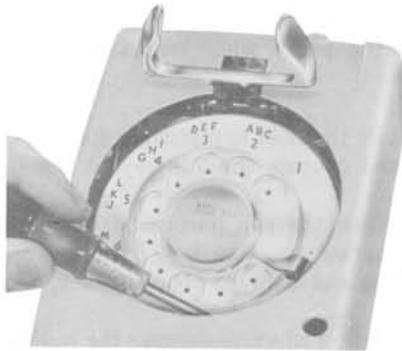

Fig. 7—Wall Set Housing Alignment
- (4) When housing is approximately 1/2-inch from the dial, insert a screwdriver between housing and dial (Fig. 7).
- (5) Using the screwdriver tip, force the 2-line pickup key button toward the top of the set. At the same time, pull housing downward, maintaining the 20 degree tilt. Work 2-line pickup key button into opening.
- (6) After 2-line pickup key button is aligned with opening, lower housing and remove screwdriver. Press housing firmly against baseplate, engaging snap fastener.